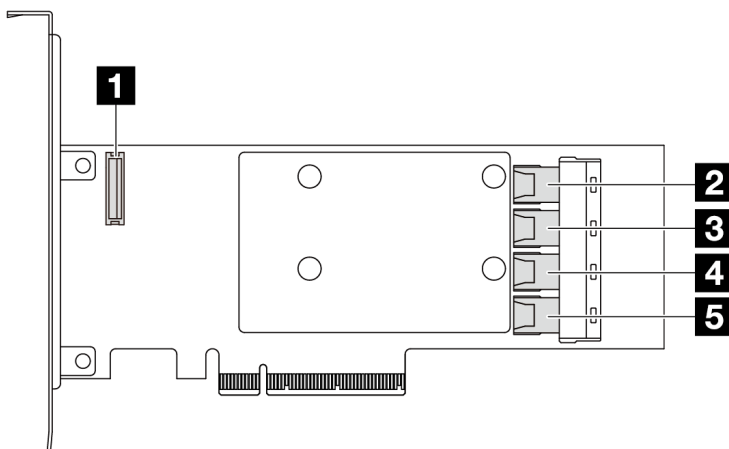

Figure 249. A Gen 3 16i SFF RAID/HBA adapter (four port connectors)
- Figure 249 “A Gen 3 16i SFF RAID adapter (four port connectors)” on page 283